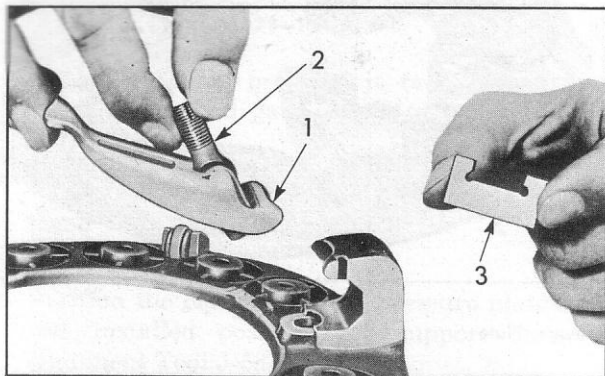

Fig. 15—Installing Levers
2. Assemble lever, eyebolt and pin, holding eyebolt and lever as close together as possible and with the other hand grasp strut as shown in Figure 15.